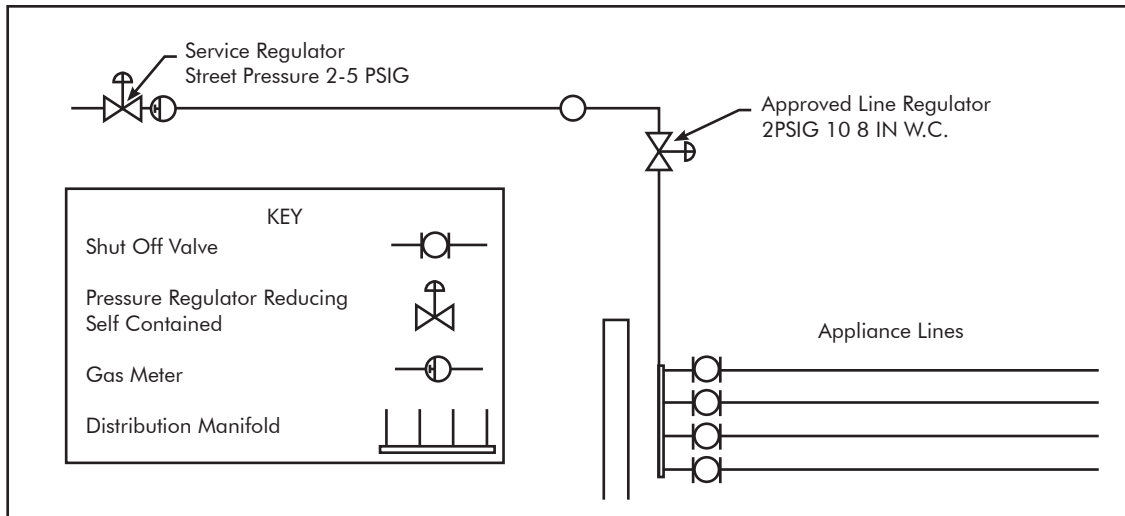

FIG. 2-1 Elevated Pressure System Arrangement
C. **Using FIG. 2-1 as a guide, the elevated pressure system can be described as follows:**